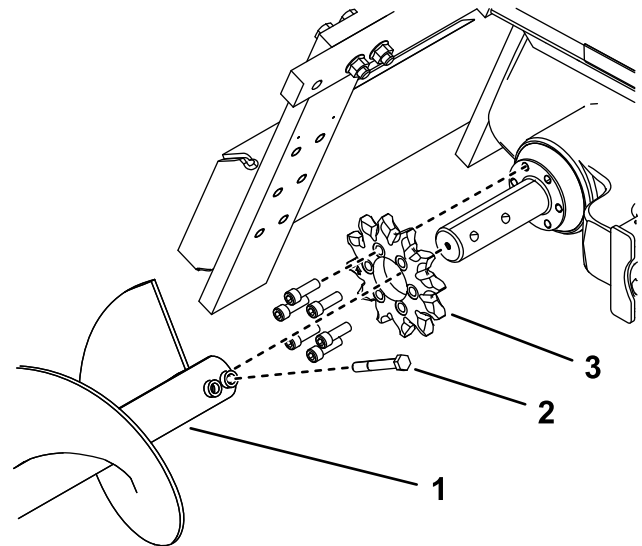

Figure 16
4. Remove the spoils auger (Figure 16).
9. Remove the 6 bolts securing the drive sprocket (Figure 16).
10. Remove and discard the drive sprocket (Figure 16).
12. Slide the new sprocket onto the shaft as illustrated in (Figure 16).
13. Thread the 6 bolts into the sprocket finger tight (Figure 16).